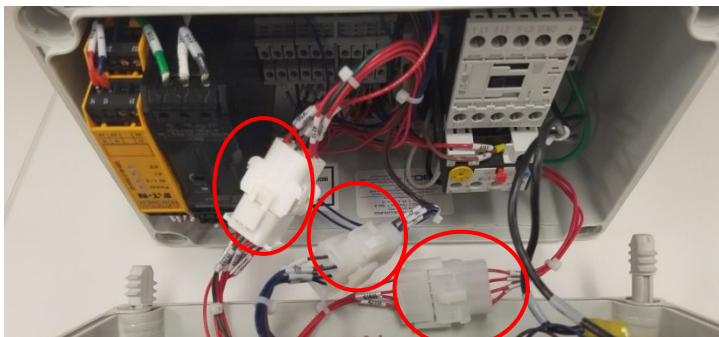

Figure 81. Disconnect Cable Harnesses
4. Disconnect the cable harnesses in order to remove the lid. **Refer to Figure 81.**
7. Locate the two green wire terminal strips on the PLC (large black device on the inside of the lid) and detach both of them. May need to use a flat head screwdriver to gently pry them out (wires can be left connected to the wire clamps). **Refer to Figure 81.**